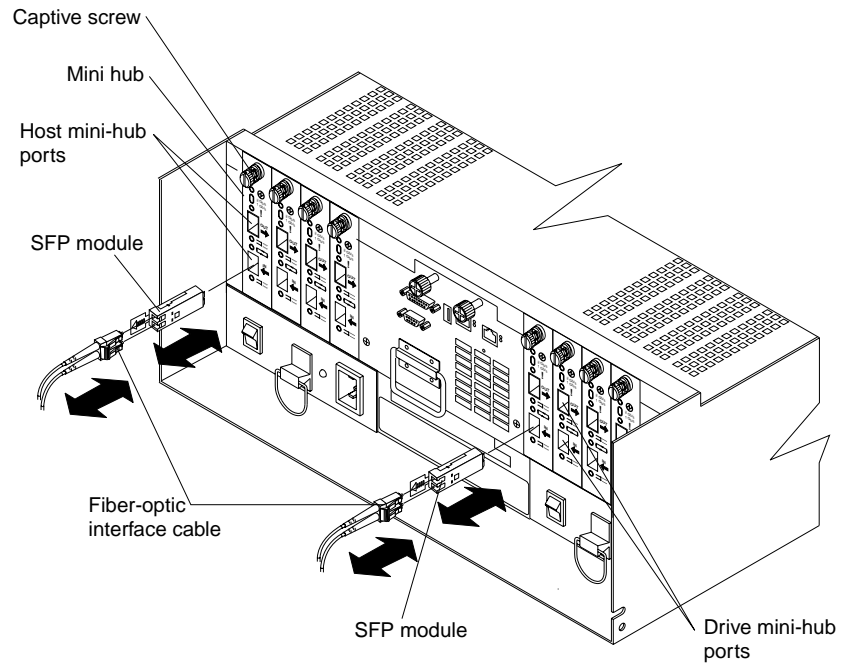

Figure 49. Removing the fiber-optic cable from the SFP module
1. On the mini hub that has failed, remove the fiber-optic cables from the SFP modules, as shown in Figure 49 on page 53.